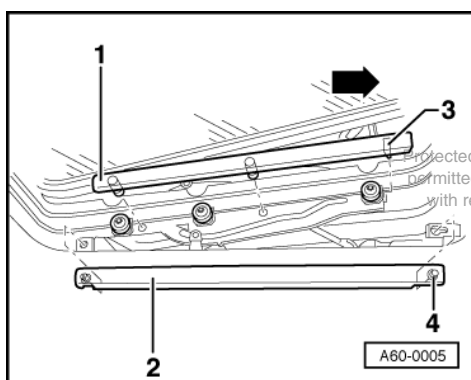

Fig.2 -> Removing cover
- ♦ Removing and installing => Fig. 2 .
- Detach left and right covers towards centre of vehicle => Fig. 2.